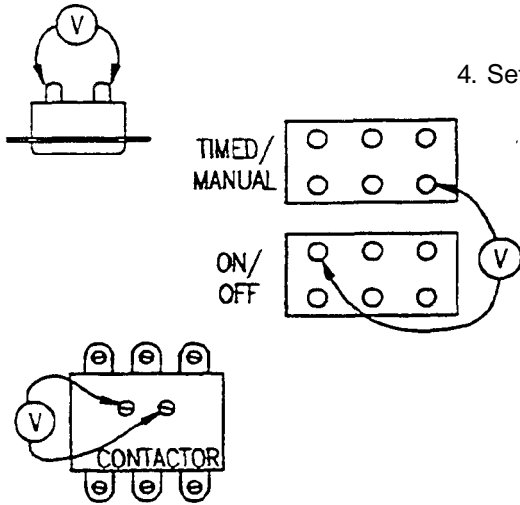

Figure 5-14. High Temperature Limit Switch
4. Set TIMED/MANUAL Switch to MANUAL. Check that the heater contactor energizes: 120 VAC across the heater contactor coil. Figure 5-14.
5. Refer to Figure 5-14 and check for 120 VAC across the High Temperature Limit Switch terminals.
6. Refer to Figure 5-14 and check for 120 VAC from the TIMED/MANUAL Switch orange wire connection to the ON/OFF Switch white/black wire connection.